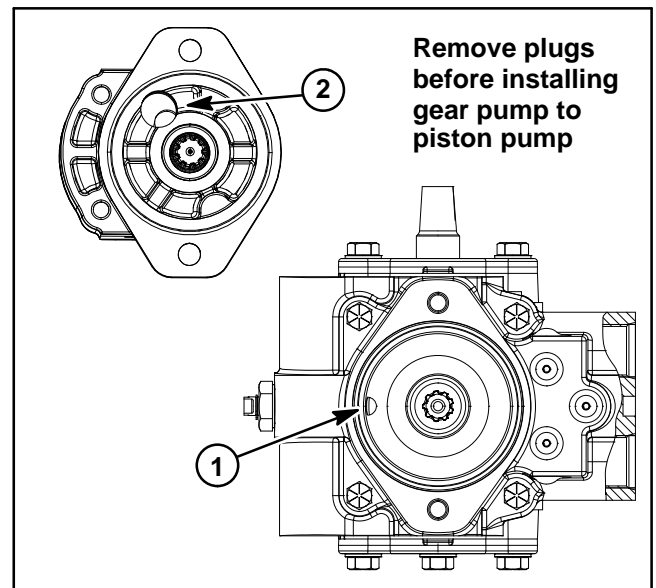

Figure 39
**NOTE:** A case drain exists in the piston (traction) pump and a suction port is near the input shaft of the gear pump (Fig. 39). When the gear pump is removed from the piston pump, plug piston pump case drain hole to prevent draining the piston pump.
8. Support gear pump to prevent it from falling. Separate gear pump from the piston pump by removing two (2) socket head screws and flat washers.